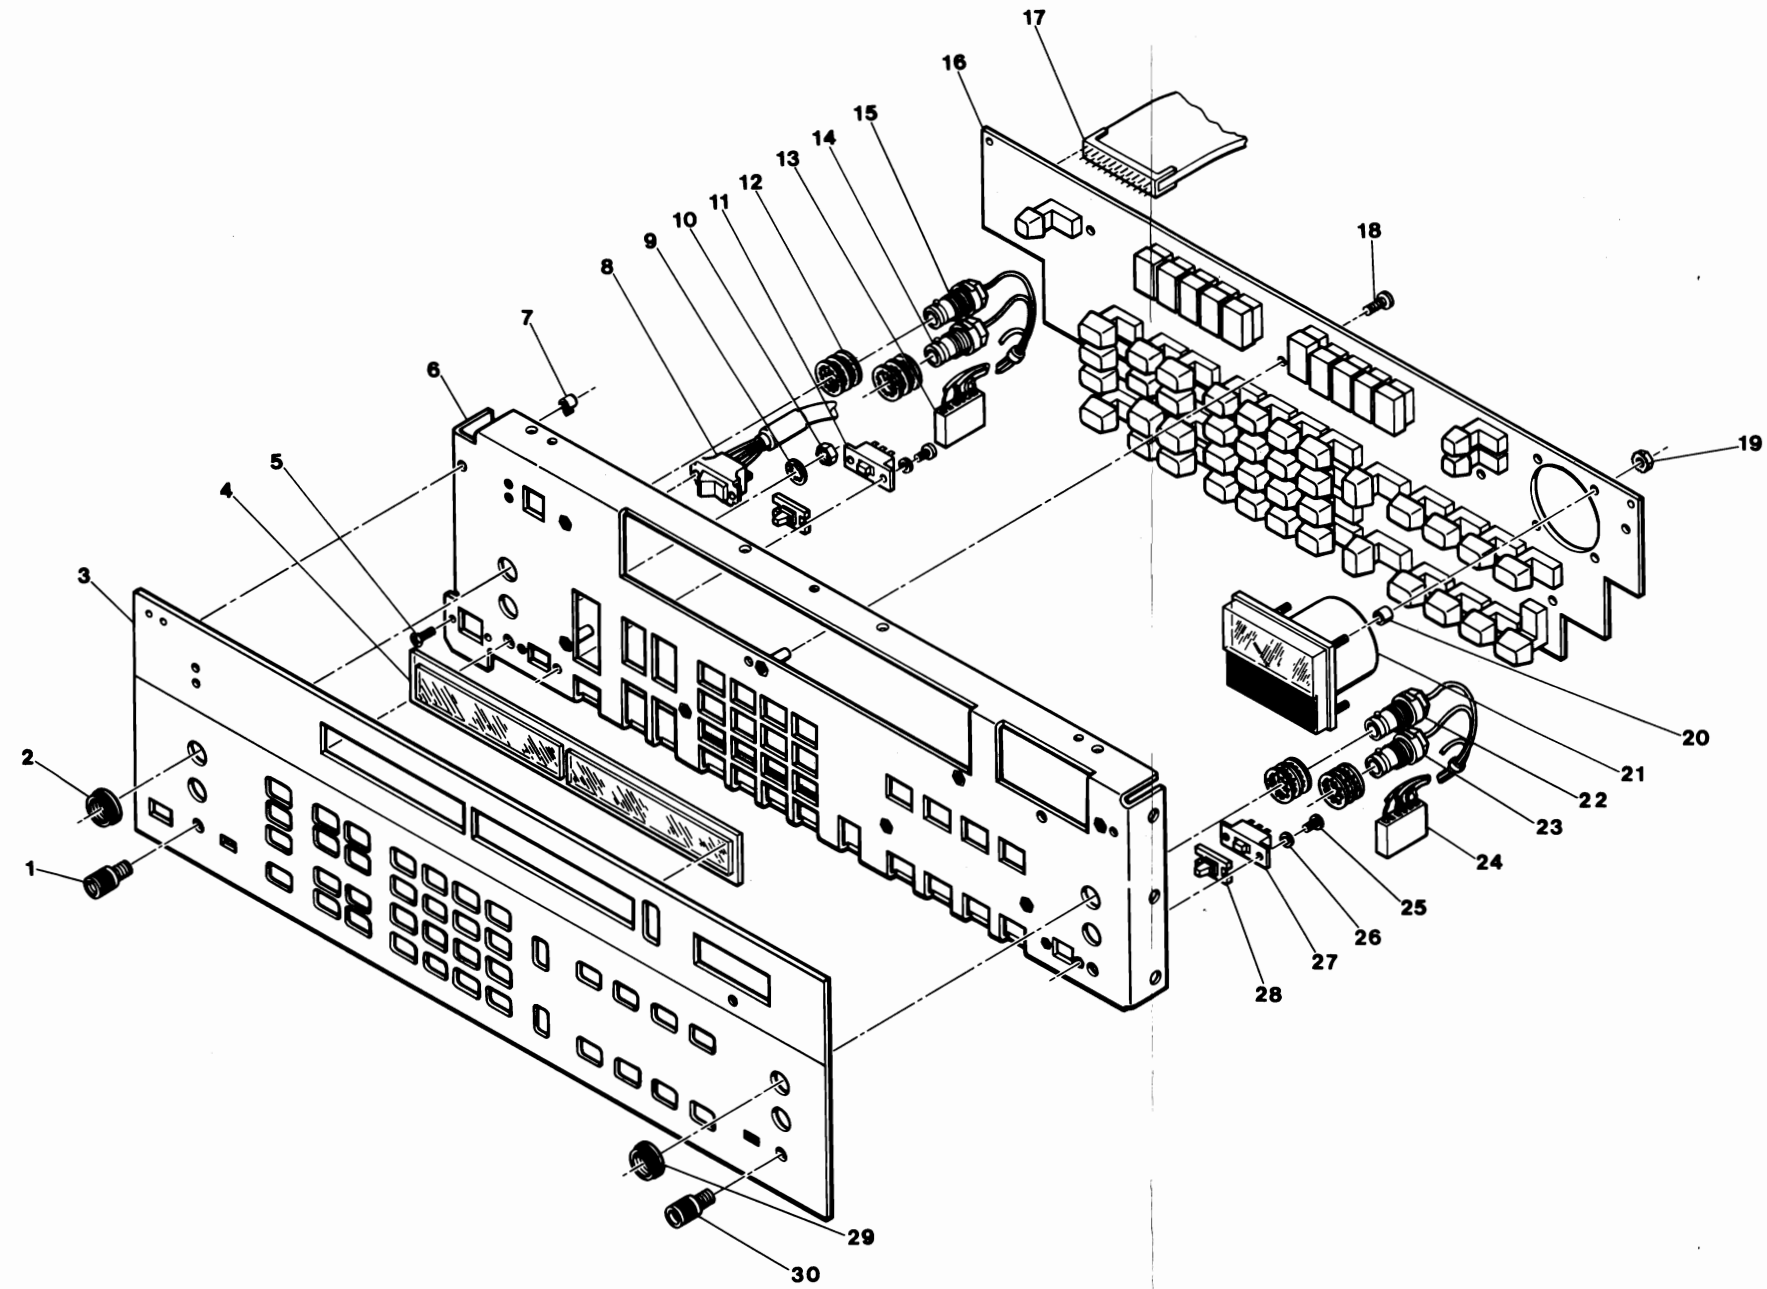

Figure 8-125. Front-Panel Illustrated Parts Breakdown
3. Remove the front-panel Assembly. The circuit board should be held in place. Refer to Figure 8-125.